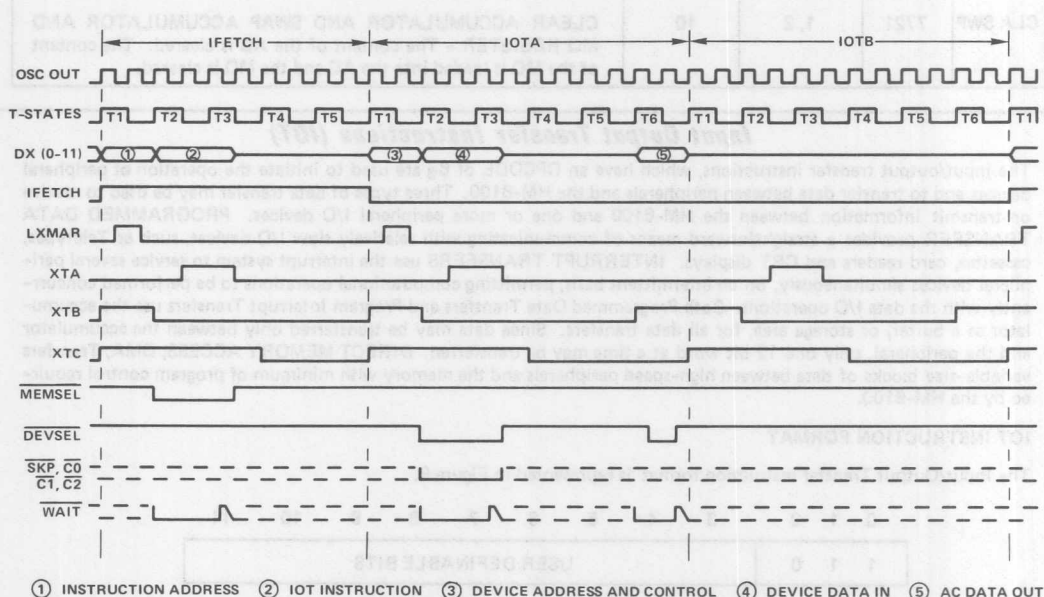

FIGURE 10 - Input-output instruction timing
Programmed Data Transfer is the easiest, simplest, most convenient and most common means of performing data I/O. For microprocessor applications, it may also be the most cost effective approach. The data transfer begins when the HM-6100 fetches an instruction from the memory and recognizes that the current instruction is an IOT (2). This is referred to as an IFETCH and consists of five (5) internal states. The HM-6100 sequences the IOT instruction through a 2-cycle execute phase referred to as IOTA and IOTB. Bits 0 - 11 of the IOT instruction are available on DX0 - 11 at IOTA ^ LXMAR (3). These bits must be latched in an external address register. DEVSEL is active low to enable data transfers between the HM-6100 and the peripheral device (4) & (5). Input-Output Instruction Timing is shown in Figure 10. The selected peripheral device communicates with the HM-6100 through 4 control lines - C0, C1, C2 and SKP. In the HM-6100 the type of data transfer, during an IOT instruction, is specified by the peripheral device(s) by asserting the control lines as shown in Tables 5-1 and 5-2.